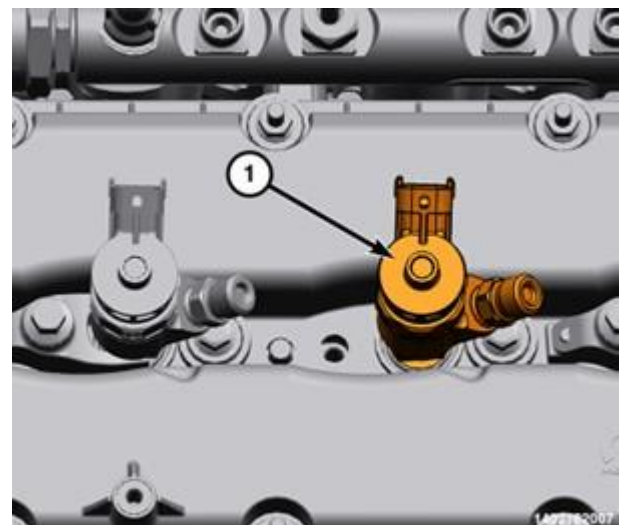

Figure 133 – Fuel Injectors
72. Using your hand, pull the fuel injectors (1) straight up from the cylinder head for removal. Discard the lower sealing washer and place a protective cap over the injector bore (Figure 133).